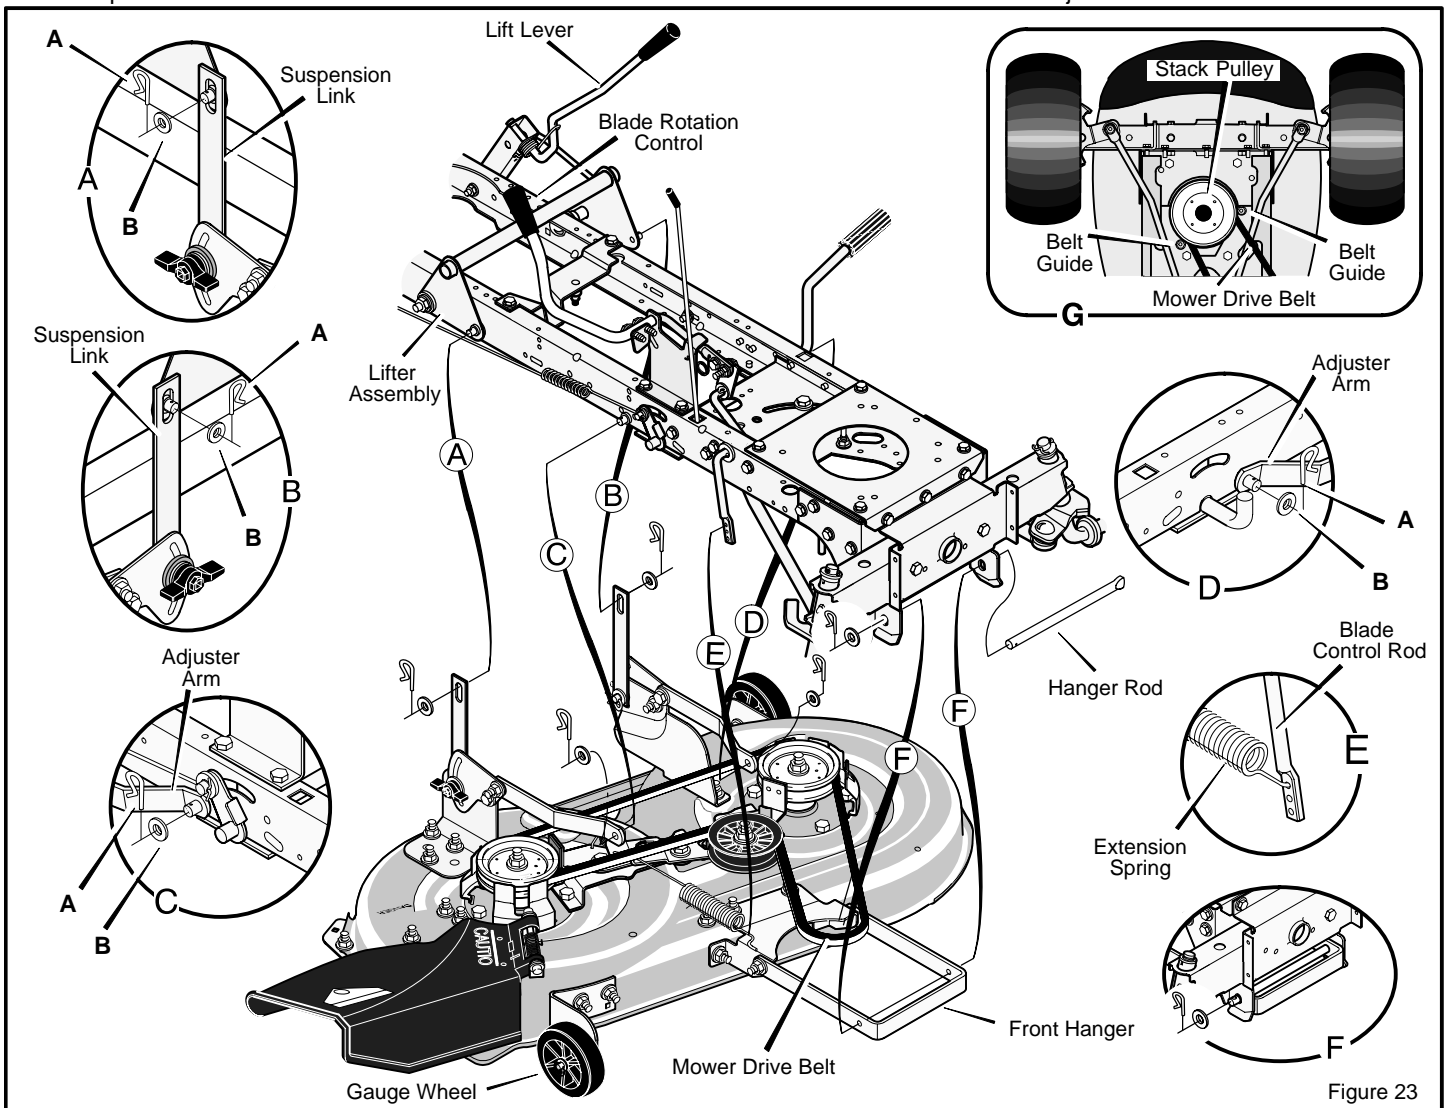

Figure 23
4. Remove the hair pins and the washers from the **adjuster arms** (Figure 23). See illustrations "C" and "D".